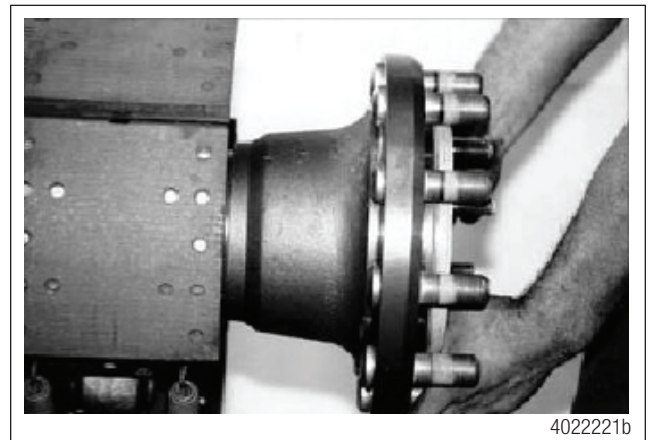

Figure 36
7. Remove the hub from the spindle, pulling the assembly straight out to avoid cocking the inner bearing cone. If the cone binds against the spindle, try rocking the hub to free it. If necessary, use a pry bar under the inner surface of the hub to free it. Pry only against the hub to avoid damaging the inner seal. Figure 36.